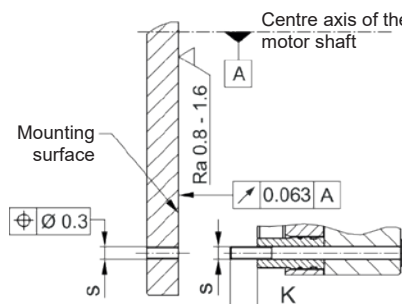

Fig. 5
- ❑ On hub designs the tolerances of the hub bore (10) and the shaft must be selected so that the hub toothing (10) is not widened. Widening of the toothing leads to the rotor (3) jamming on the hub (10) and therefore to brake malfunctions. Recommended hub – shaft tolerance H7/k6. If the hub (10) is heated for better joining, the O-ring (11) must be removed beforehand and re-mounted after hub installation. The max. permitted joining temperature of 200 °C must not be exceeded.
- ❑ Dimensioning of the key connection according to the requirements shaft diameter, transmittable torque and operating conditions must be carried out. For this, the corresponding user data must be known or the customer must carry out the dimensioning according to the valid calculation basis DIN 6892. For the calculation, a hub quality of $Re = 300 \text{ N/mm}^2$ should be used. The length of the key should lie over the entire hub (10).
- ❑ The mounting dimensions and the tapped holes s with depth $K + 2 \text{ mm}$ ($K = \text{screw projection}$) must be provided according to the Catalogue or the applicable assembly drawing (Fig. 5).